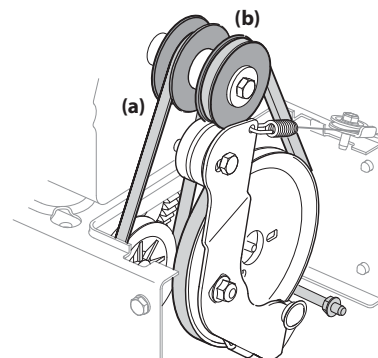

Figure 4-20
- Remove the drive belt (a) from around the engine pulley (b), and away from the unit. See Figure 4-20.
- Place the new drive belt (a) on the engine pulley. See Figure 4-20.